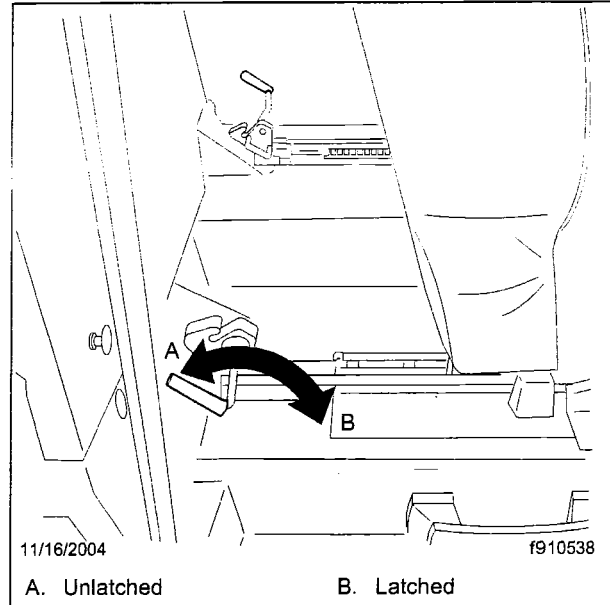

Fig. 10, Seat Safety Latch
1. Pull the safety latches for the passenger bench seat up and to the rear to unlatch them. Slide the passenger seat or rear bench seat forward. See Fig. 10.